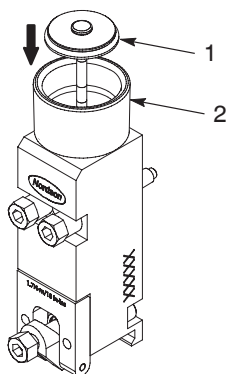

Figure 9-13 Dropping the needle-and-piston assembly through the piston insertion tool into the module body
2. See Figure 9-13. Lubricate the seal portion of a new needle-and-piston assembly (1) with neat's foot oil.
3. Stabilize the module body on a flat surface (such as a block or table) and position the piston insertion tool (2) on top of the module body.